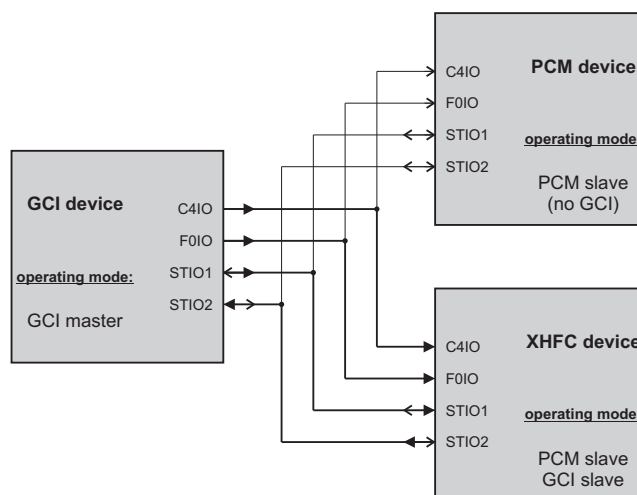

Figure 6.17: GCI application example 3 (XHFC-2SU is PCM slave and GCI slave)
The programming procedure is shown in Figure 6.17. GCI slave mode is configured with the shown settings for  $V\_GCI\_SWAP\_TXHS$ ,  $V\_GCI\_SWAP\_RXHS$  and  $V\_GCI\_SWAP\_STIO$  in register  $R\_GCI\_CFG0$ . Again, not mentioned bitmap values of the GCI relevant registers remain in their reset state.
**Table 6.10:** Programming procedure for application example 3 according to Figure 6.17 (XHFC-2SU is PCM slave and GCI slave)